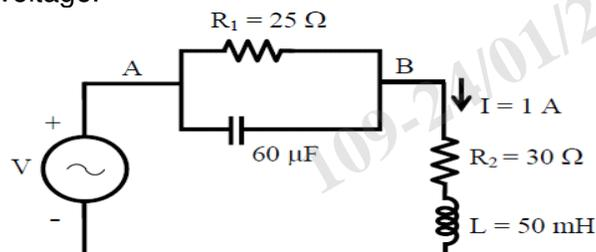

Fig. 4
- i) A total current of 1 A is drawn by the circuit shown in Figure 4 fed from an ac voltage, V of 50 Hz. Find the input voltage.